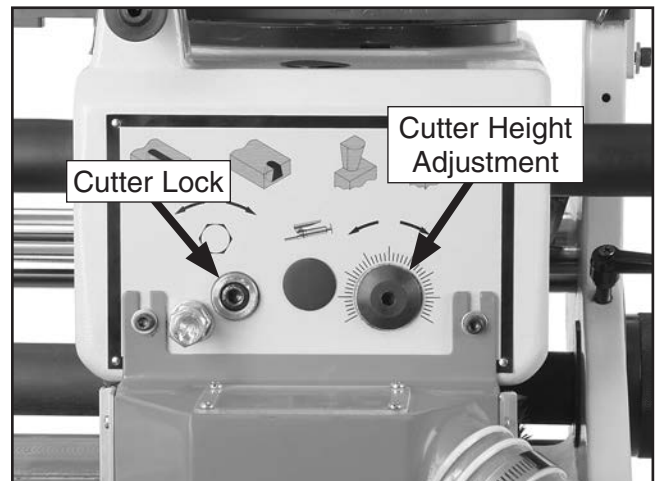

Figure 33. Cutter lock and adjustment height.
- Use a 6mm hex wrench to loosen the cutterhead lock shown in **Figure 33**.